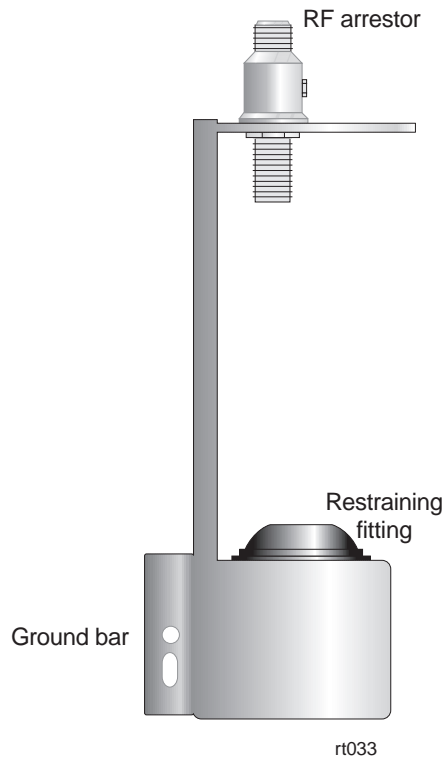
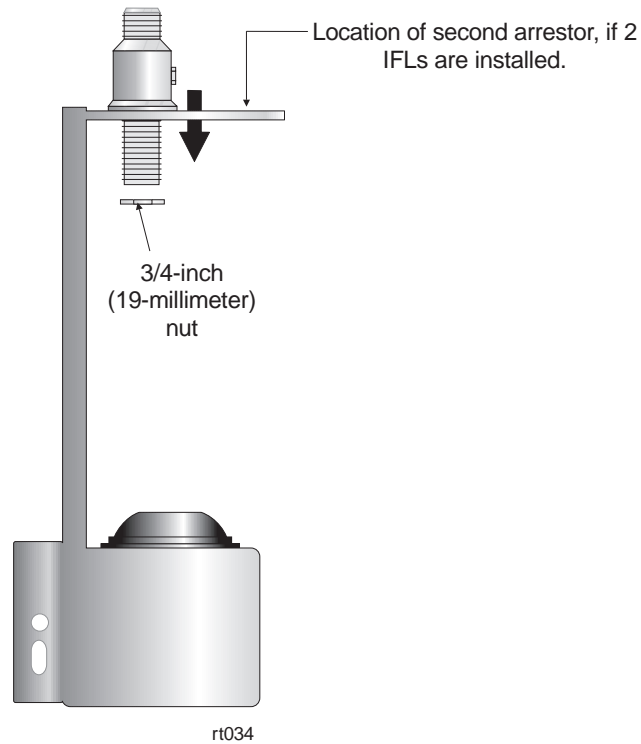

Figure 4-5 Typical RT lightning arrester
Figure 4-6 Attaching the arrester to the arrester body
Figure 4-5 identifies the components of a typical RT lightning arrester. The design illustrated here (see also figure 4-6) can accommodate one or two IFL cables for up to two RTs.
1. Attach an RF arrester to the arrester body with a 3/4-inch (19-millimeter) nut. See figure 4-6.